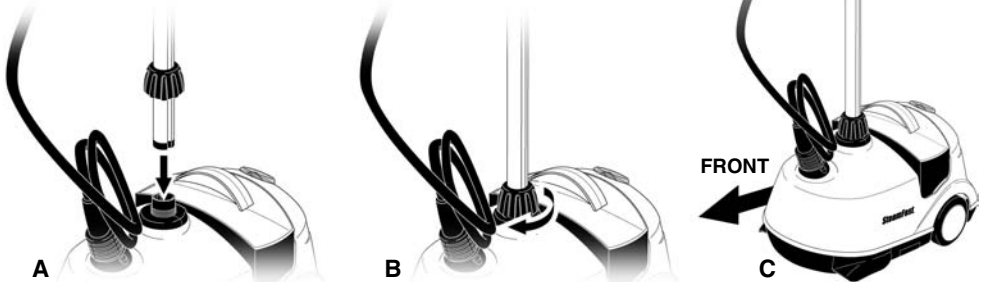

FIGURE 2
1. Insert SECTION 4 of Telescopic Pole into Pole Base (FIGURE 2-A).
2. Tighten coupling on Telescopic Pole by turning it in a clockwise direction (FIGURE 2-B). This will secure Telescopic Pole in place.
**NOTE: To properly balance unit, align Telescopic Pole so that clothes hanger hook on Pole Top faces towards front of steamer (FIGURE 2-C). Nozzle Station will attach on opposite side of Telescopic Pole (refer to Page 9 for details).**